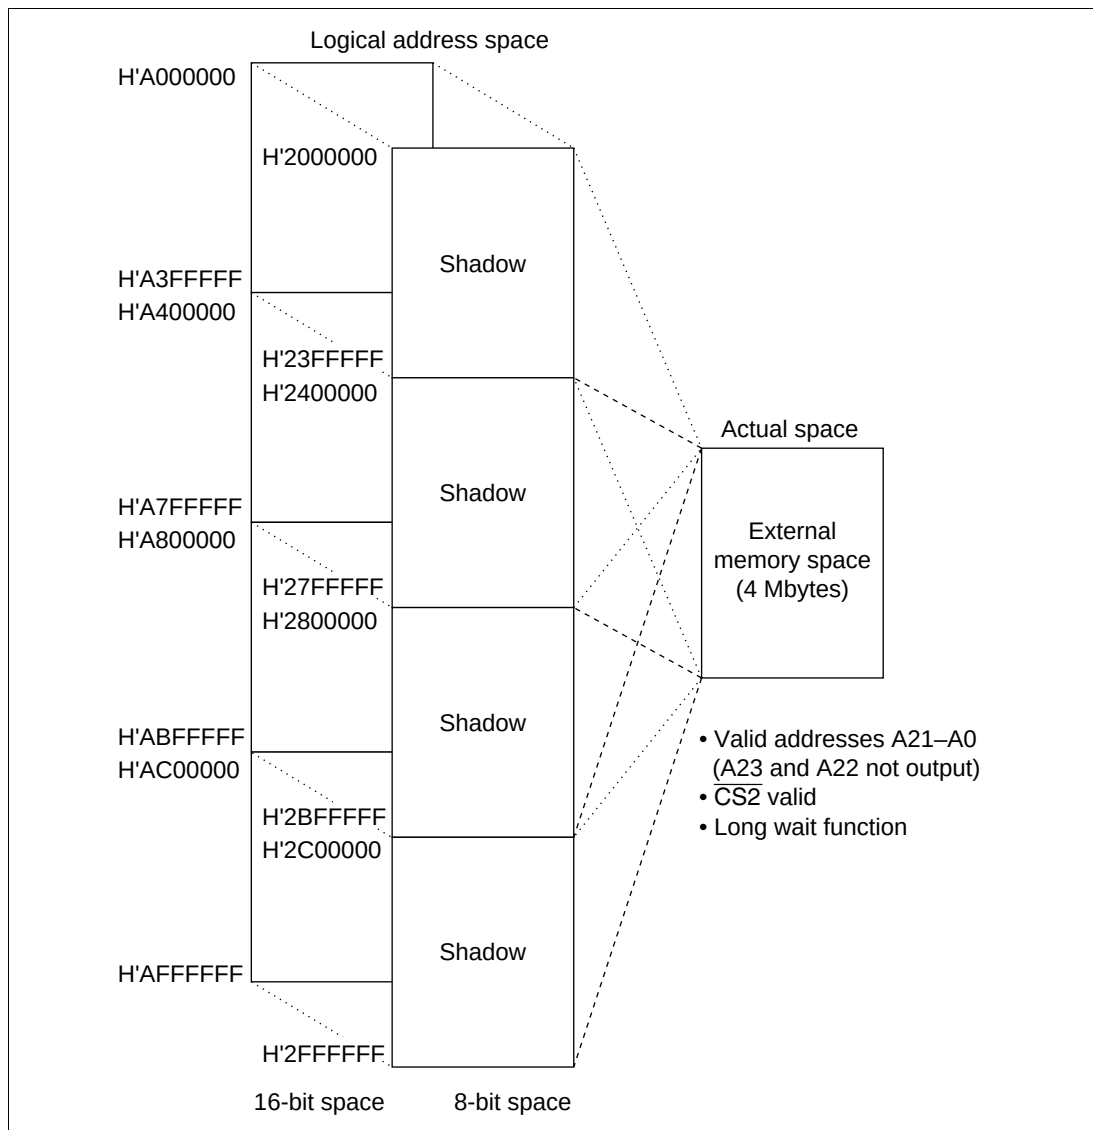

**Figure 8.7 Memory Map of Area 2**
**Areas 2–4:** Areas 2–4 are areas with address bits A26–A24 set to 010, 011, and 100, respectively, and address ranges of H'2000000–H'2FFFFFF and H'A000000–H'AFFFFFF (area 2), H'3000000–H'3FFFFFF and H'B000000–H'BFFFFFF (area 3), and H'4000000–H'4FFFFFF and H'C000000–H'CFFFFFF (area 4). Figure 8.7 shows a memory map of area 2, which is representative of areas 2–4.